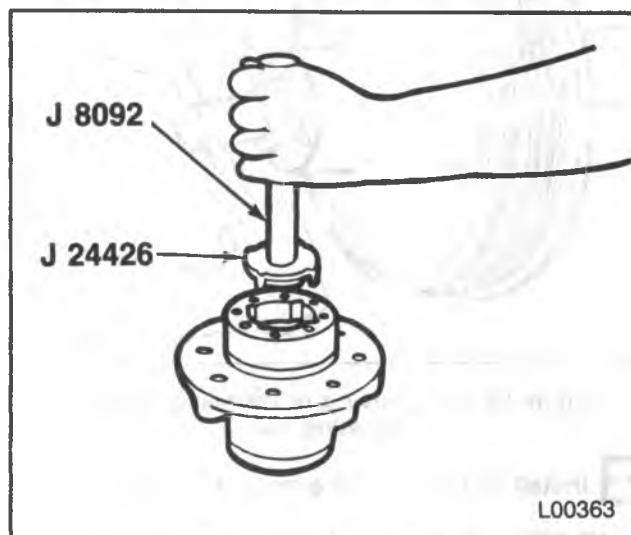

Figure 28 — Seating Outer Bearing Cup onto Retaining Ring
- Drive the cup back onto the retaining ring using J 24426 (figure 28).